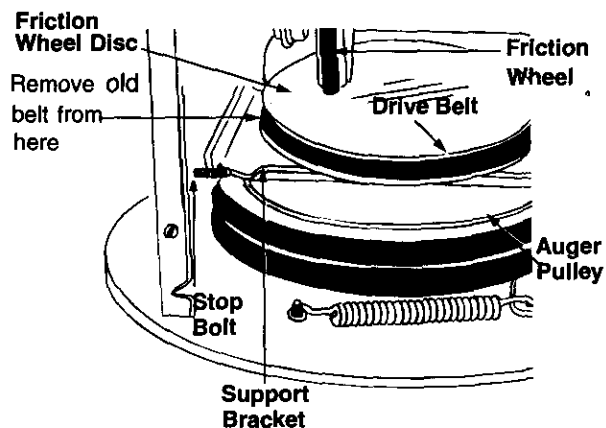

Figure 28
- Pulling the idler pulley upward, roll the belt off the idler pulley and the engine pulley and lift belt off friction wheel disc. See Figure 28.
- Back out the stop bolt until the support bracket drops on the auger pulley. See Figure 28.
- Slip belt between friction wheel and friction disc plate and remove the belt. See Figure 28.
**NOTE:** The support bracket must rest on the stop bolt after the new belt has been assembled. See Figure 28.